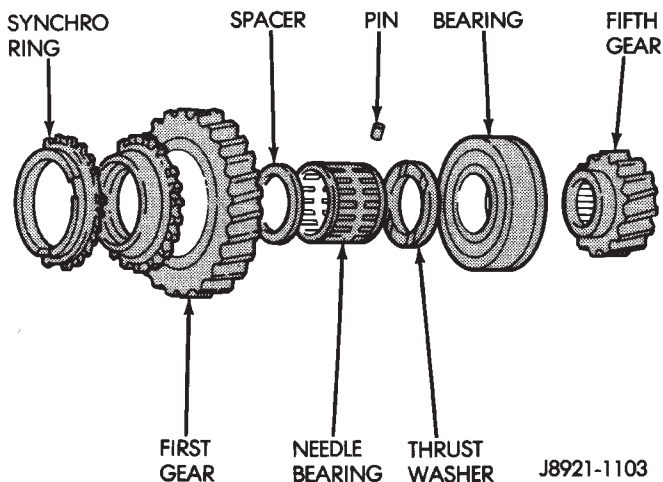

Fig. 79 First And Fifth Gear Components
(15) Install synchro ring on first gear (Fig. 79).
(16) Install first gear spacer on shaft and against selective fit snap ring (Fig. 79).
(17) Install first gear and needle bearing (Fig. 79) on output shaft.
(18) Install locating pin and thrust washer on shaft (Fig. 79).